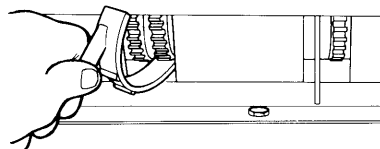

Figure 14
- 7/ Install the additional down tubes into the blanked off metering mechanisms and remove the blanking-off caps from inside the seed and fertilizer hoppers. (see figure 14)
- 1/ Install a blanking-off cap into the metering mechanism on every second tine. (see figure 14)
- 2/ The fluted rollers - Figure 14
The "Fluted" metering rollers (identical for both seed and fertilizer) have a coarse and fine side. (see figure 14) which allows large and small seeds to be accurately metered. This allows your Agrowdrill to handle a wide range of seed sizes with the minimum of adjustment. Check the recommended setting in the calibration charts and use the following procedure to select fine or coarse side:-
- 1/ Grasp the rear arm of the blanking cap and twist to release it from under the rear ledge. (See figure 14)